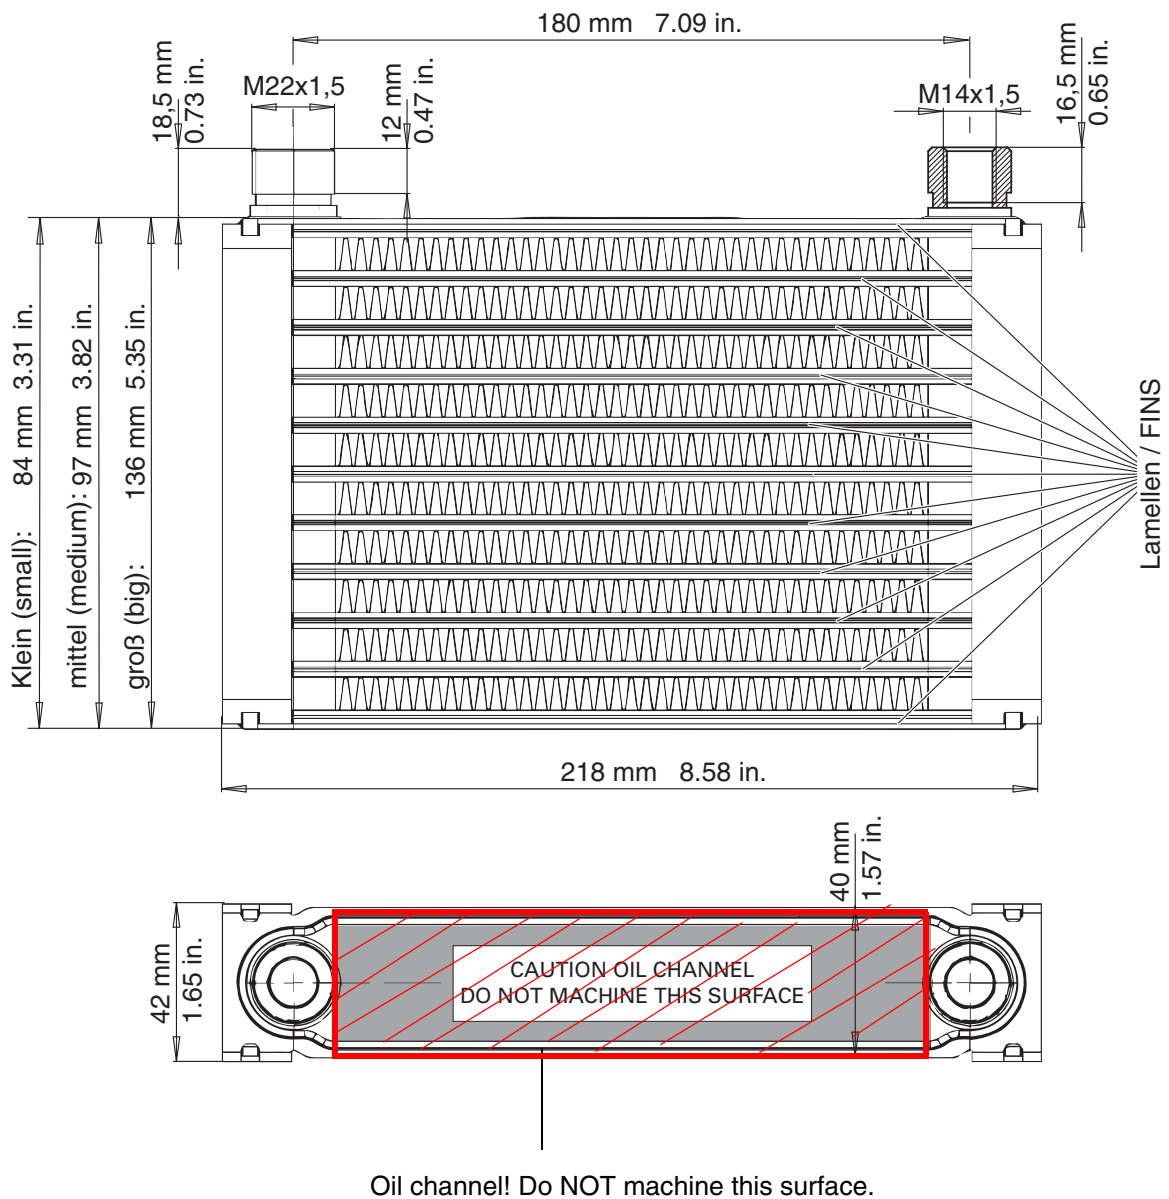

Fig. 2
- see modified outer dimensions as shown in Fig. 2.
See Fig. 2.